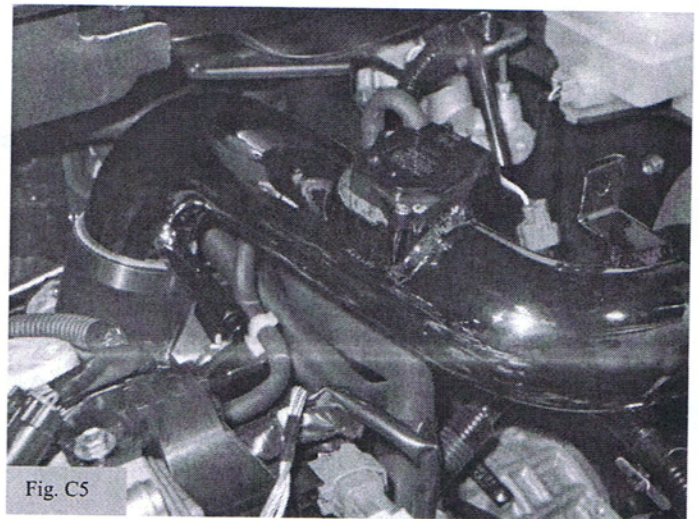

Fig. C5
5. Install the Upper Intake Pipe /Air Bypass Valve to the throttle body coupler and the rubber mount. (Fig. C5)